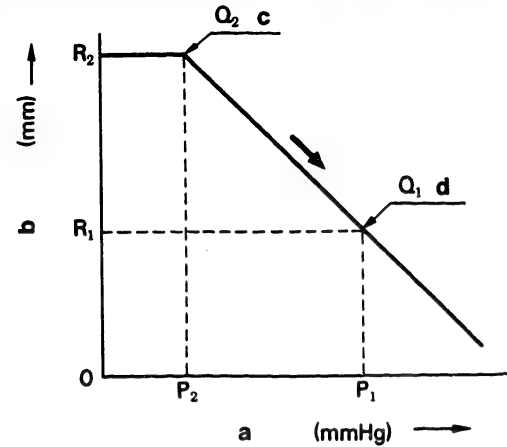

Fig. 174 Characteristic curve of aneroid compensator
- 2) Next, decrease the negative pressure of the aneroid compensator's atmospheric chamber to less than P_2 mmHg, and then increase to P_2 mmHg and check that the control rack position is R_2 mm. Check that fuel injection quantity Q_2 cc/1000 st is obtained at this point. Always measure the negative pressure in an increase direction (direction of the arrow). (Fig. 174)
*Note: The following explains the relationship between negative pressure as shown in Fig. 174 and absolute pressure.
Zero point (ie. the intersection of the axes) in Fig. 174 equals absolute pressure at sea level (760 mmHg).
In relation to the negative pressure for example, the change from 0 to P_1 mmHg on the horizontal axis in Fig. 174 is an increase in negative pressure.